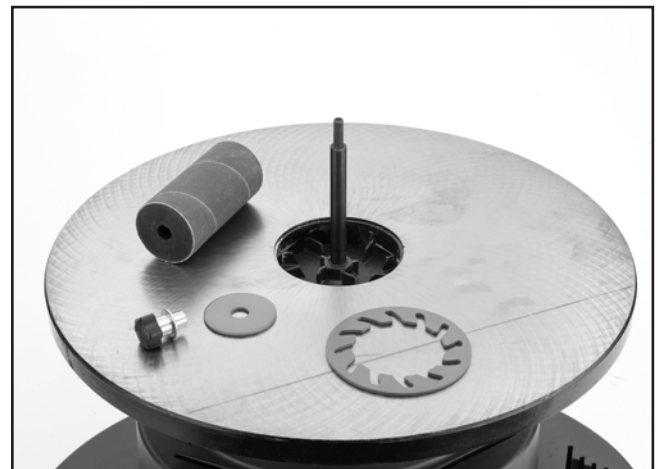

Figure 16. Table insert area.
2. Wipe or vacuum out any dust or particles that have accumulated beneath the table insert area, shown in **Figure 16**.